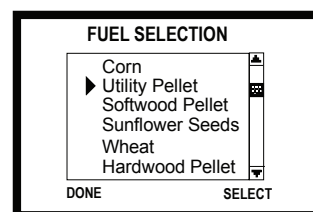

Figure 13.2
- For example, if you have selected wood pellets and you are burning corn, the appliance may not light, it may go out or overfeed (Figure 13.2).